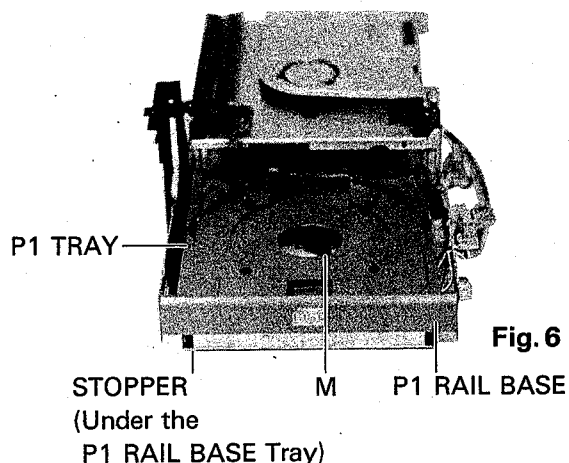

Fig. 6
(8) Removing the P1 RAIL BASE (Fig.6,7)